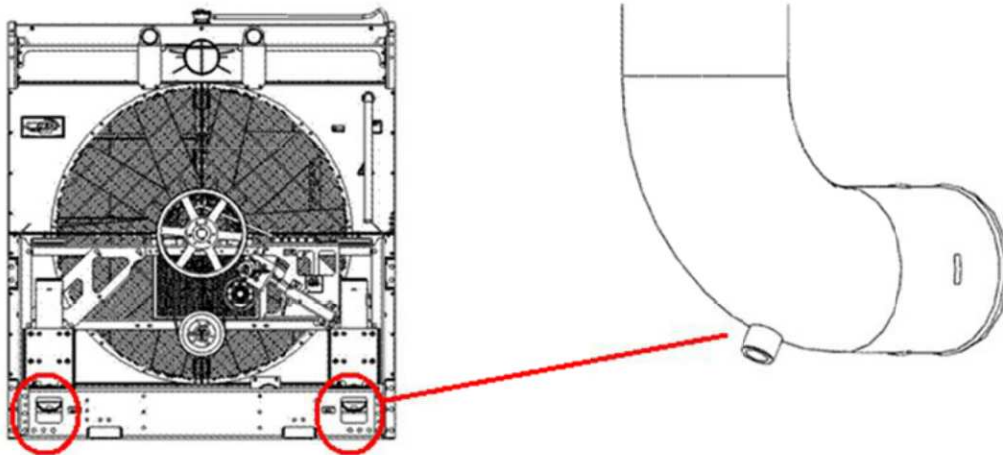

Figure 7: Condensate Drain location
- Refer to **Figure 7** below for location of condensation drain.